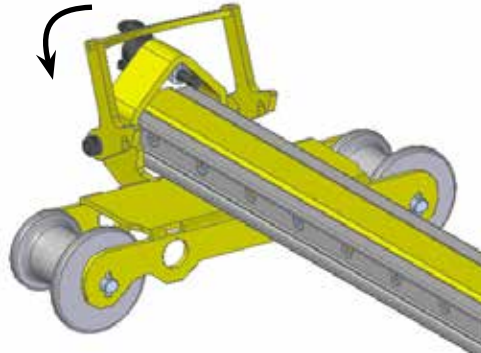

Figure 99.
3. Disconnect the brake wire, figure 99.